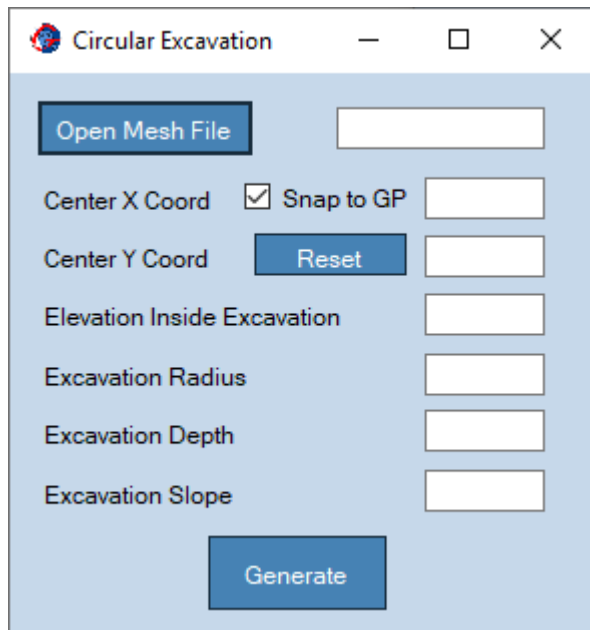

Figure 22: Meshing Menu – Circular Excavation.
- **Snap to GP:** This option is useful when coordinates (X,Y) are selected using the mouse. Given the unlikeliness of exactly clicking over a gridpoint (GP) coordinate, activating this option will internally correct the coordinate of the selected point to the closest GP coordinates. This option helps create straight edges of the landform perimeter, aligned with the mesh grid.
- **Meshing Menu, Circular Excavation:** This option (shown in Figure 22) defines a Circular Excavation landform over any given surface.